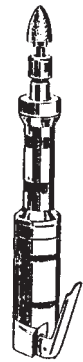

Figure 21.32
- Choose tools with a trigger strip rather than a trigger button. This spreads force over a greater area, reducing muscle fatigue (Fig. 21.32).